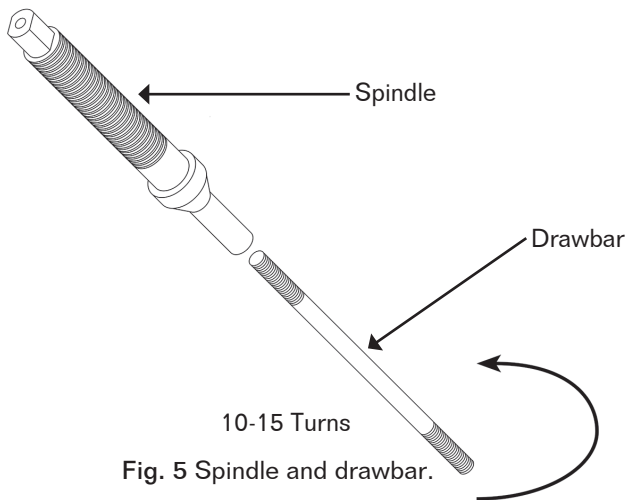

Fig. 5 Spindle and drawbar.
3. Thread the drawbar approximately 10-15 turns into the bottom of the spindle. The drawbar has two threaded ends. One of them remains exposed. See Figure 5.